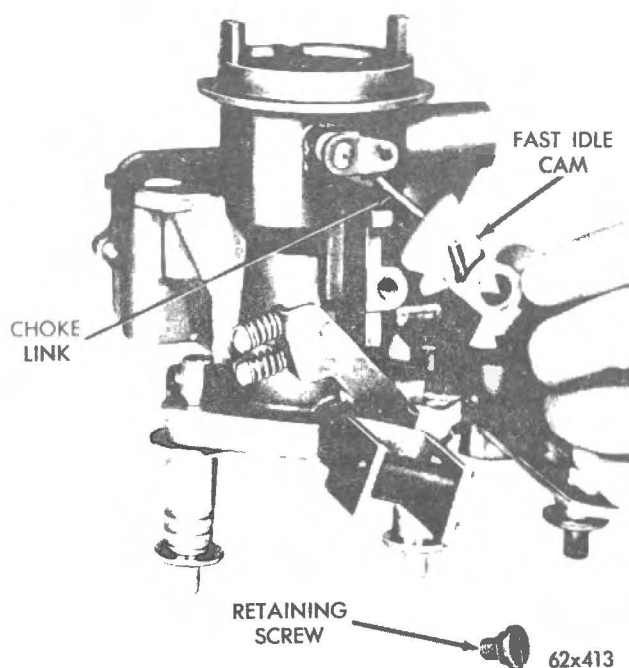

Fig. 20 - Removing or installing fast idle cam.
(12) Remove the fast idle cam retaining screw, then remove cam, and at the same time, disengage the choke link (Fig. 20).